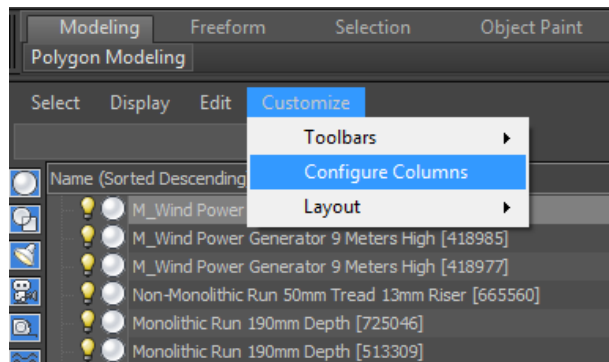

FIGURE 18: HOW TO CONFIGURE COLUMN
- i. On the 'Scene Explorer', click 'Customize' and click 'Configure Column' (Figure 18)